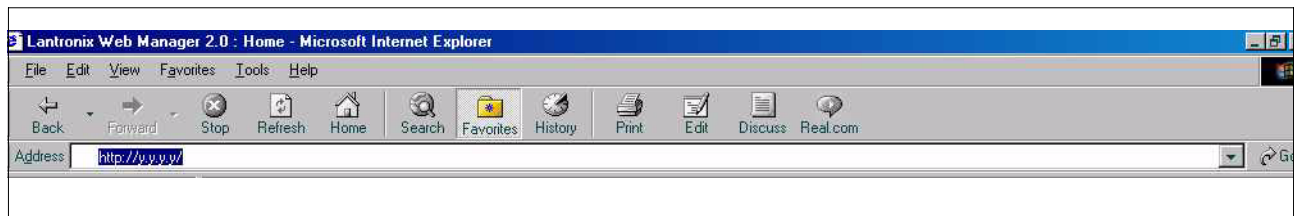

Figure 16. Web Browser Login
1. Type the TCP/IP Interface Module's IP address into the Web browser's URL (Address/Location) field (see Figure 16).